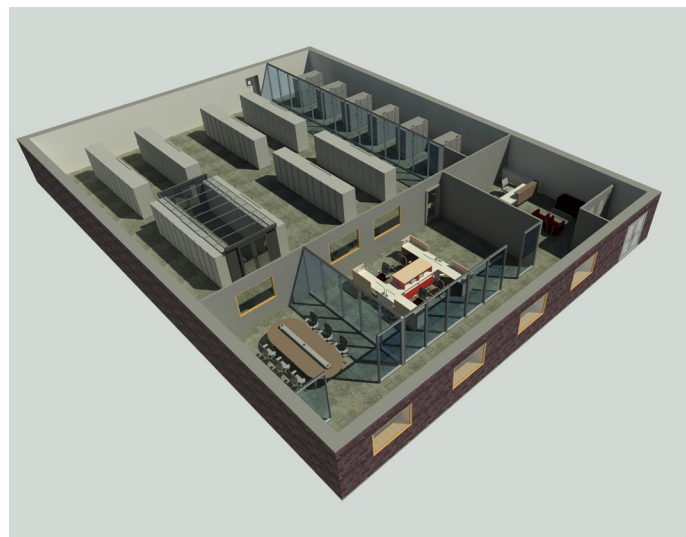

FIGURE 3: An example of a data center constructed with FR-PANELS
- Custom fire protection (See **FIGURE 3**)